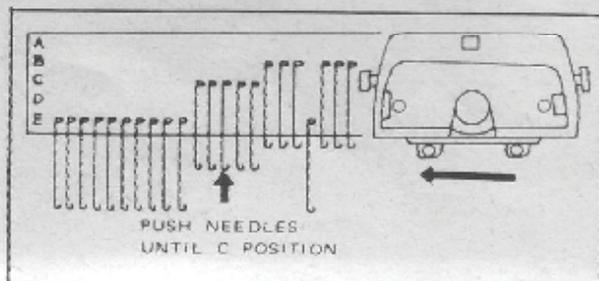

Fig. 4
4. Push the needles continuing to knit to C position as shown in Fig. 4 and knit one row.
6. After pushing the needles continuing to knit to C position select the needles according to the relative knitting diagram and knit one row. (Fig. 4)
- Repeat the above steps (3) - (6).